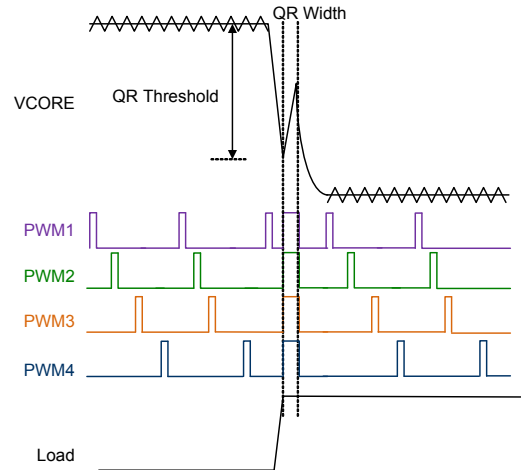

Figure 11. Quick Response Mechanism
**Quick Response (QR) Mechanism**
When the transient load step-up becomes quite large, it is difficult for loop response to meet the energy transfer. Hence, that output voltage generate undershoot to fail specification. RT8884C has Quick Response (QR) mechanism being able to improve this issue. It adopts a nonlinear control mechanism which can disable interleaving function and simultaneously to turn on all UGATE one pulse at instantaneous step-up transient load to restrain the output voltage drooping, Figure 11 shows the QR behavior.